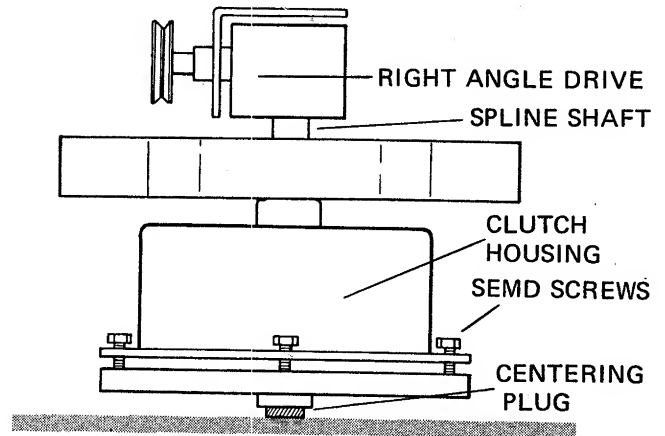

FIG. 22
26. Turn the clutch and right angle drive over so it rests on the centering plug. (see Fig. 22)